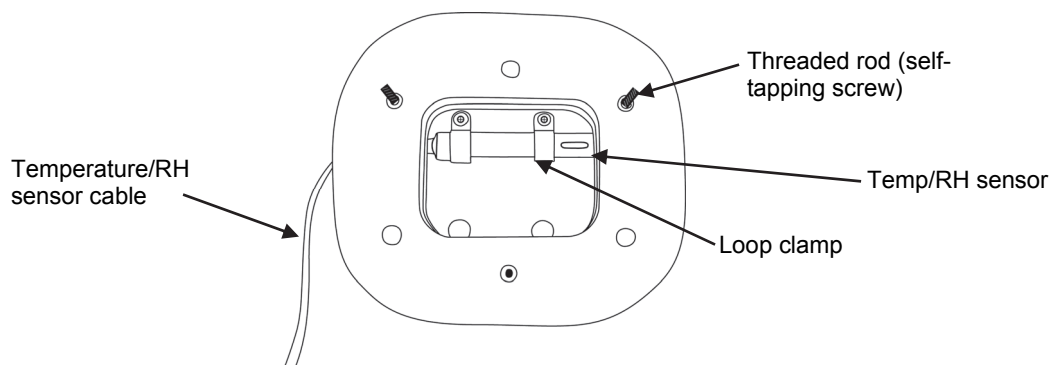
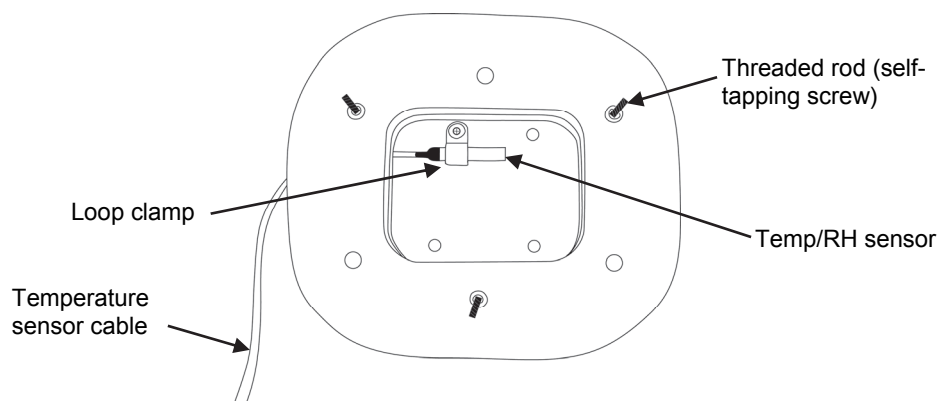
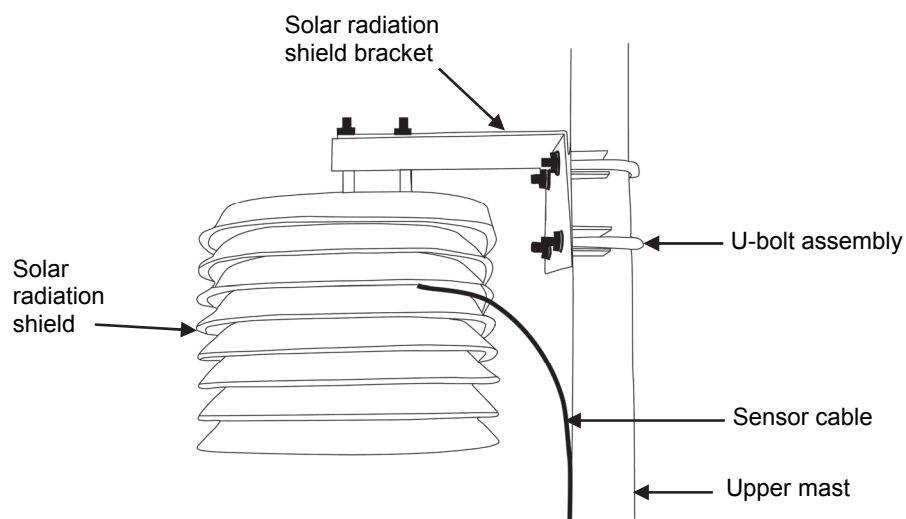

Figure 30: Temperature/RH sensor inside solar radiation shield
Figure 31: Temperature sensor inside solar radiation shield
Figure 32: Solar radiation shield attachment
1. **To install the temperature/RH sensor into the solar radiation shield:** Remove the bottom three shield plates by removing the three wing nuts. Install the temperature/RH sensor using the two black loop clamps, two washers, and two self-tapping screws (see Figure 30). Be careful not to block the RH sensor openings. Feed the cable out through the third and fourth shield plates (see Figure 32). Replace the bottom three shield plates.
**To install the temperature sensor into the solar radiation shield:** Remove the bottom three shield plates by removing the three wing nuts. Install the temperature sensor using the small black loop clamp, washer, and screw (see Figure 31). Feed the cable out through the third and fourth shield plates (see Figure 32). Replace the bottom three shield plates.